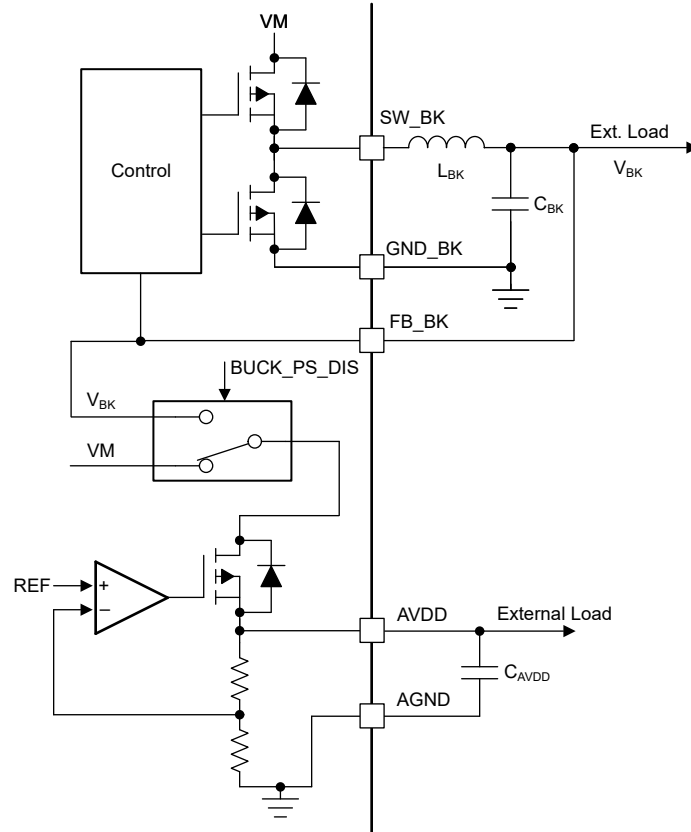

图 8-12. AVDD Power Sequencing on mixed mode Buck Regulator
The AVDD LDO has an option of using the power supply from mixed mode buck regulator to reduce power dissipation internally. The power sequencing mode allows on-the-fly changeover of LDO power supply from DC mains (VM) to buck output (VBK) as shown in 图 8-12. This sequencing can be configured through the BUCK\_PS\_DIS bit . Power sequencing is supported only when buck output voltage is set to 5.0 V or 5.7 V.